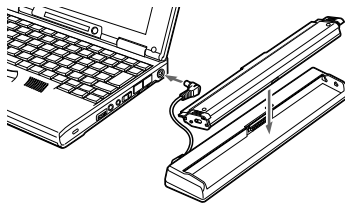

Figure 2-2 Optional Dual Lithium ion Battery Setup
2. Install one battery in your notebook and install the other in the optional battery charger. (Figure 2-2.)
3. Connect the battery charger to the DC power jack of your notebook. (Figure 2-2.)